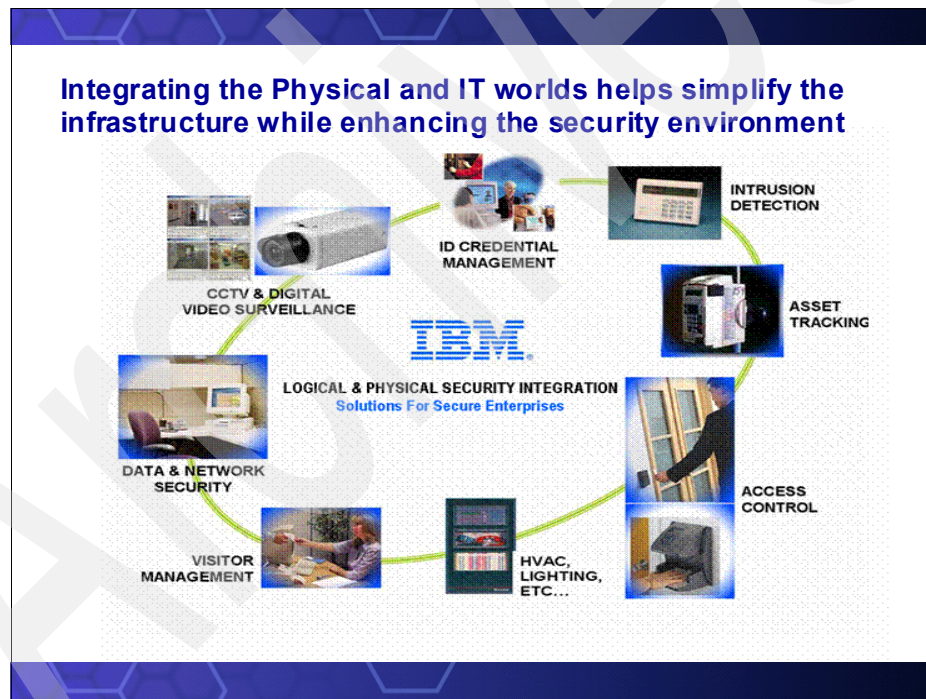

Figure 2-2 Integrate the physical security and IT technology
It should be evident by now that video surveillance is becoming an information technology (IT) issue. As Figure 2-2 shows, physical security measure can be integrated into IT infrastructure, and we can gain more valuable information from the video images.